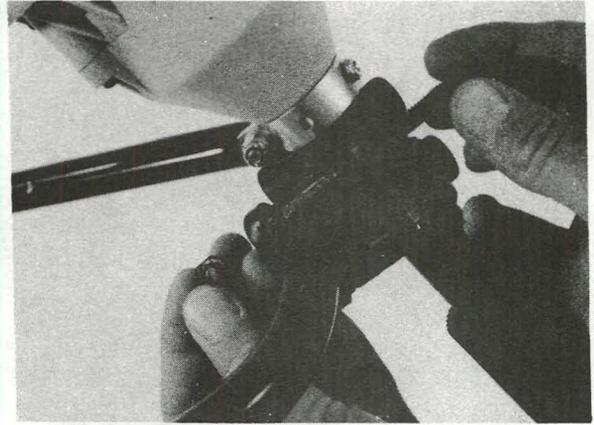

Fig. 5
1. Assemble the handlebars to the handlebar bracket (Fig. 5). Do not tighten the screws.